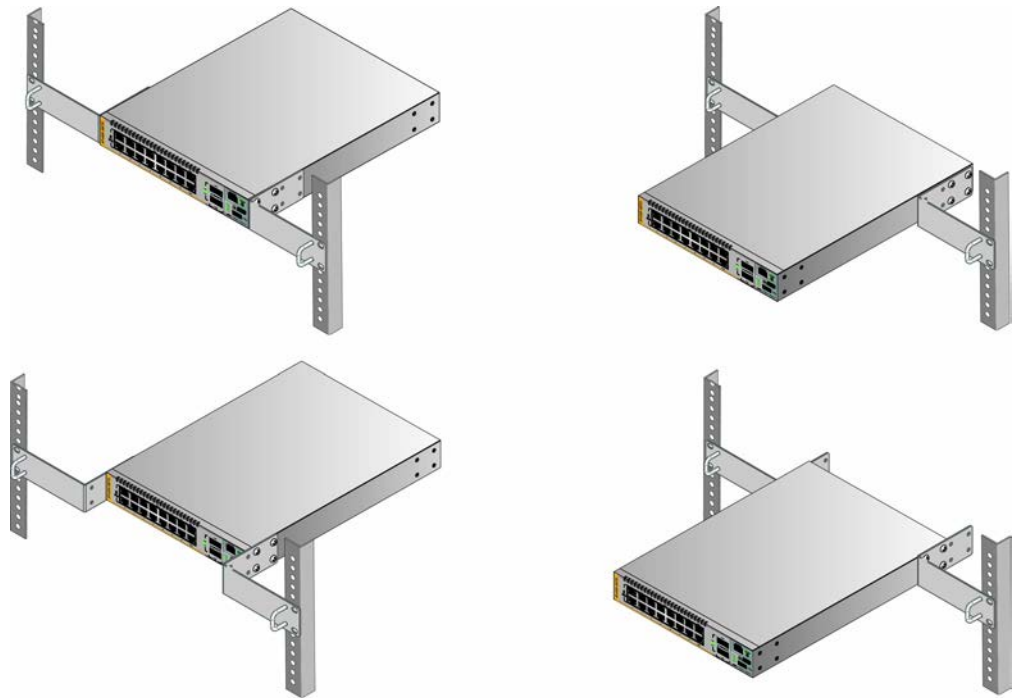
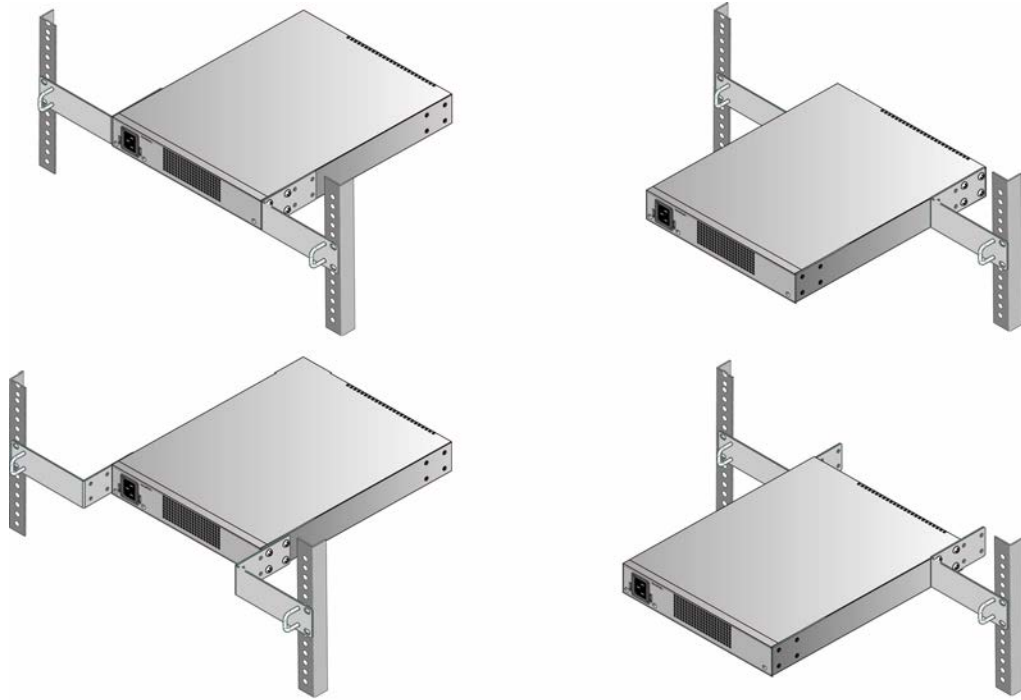
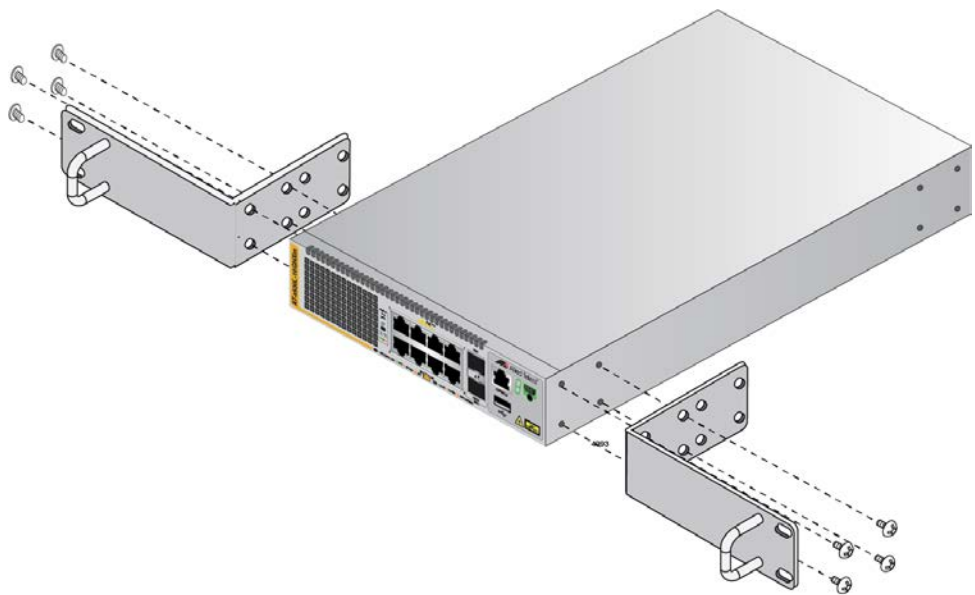

Figure 33. Switch Orientations with the Front Panel Facing the Front of the Equipment Rack
Figure 34. Switch Orientations with the Rear Panel Facing the Front of the Equipment Rack
Figure 36. Attaching the RKMT-J14 Brackets to the Switch
You can use the different sets of holes on the switch and brackets to install the switch in the equipment rack in a variety of orientations. You can install it with the front panel flush with, extending in front of, or recessed behind the front of the equipment rack. The illustrations in Figure 33 show the switch orientations with the front panel facing the front of the equipment rack.
You can also orient the switch with the rear panel facing the front of the equipment rack. Refer to Figure 34.
3. Attach the two brackets to the sides of the switch in the selected position, using the eight M4x6mm screws included with the unit. (Refer to Figure 33 on page 71 and Figure 34 on page 72.) The illustration in Figure 36 shows the installation of the brackets such that the front panel of the switch is even with the front of the equipment rack.